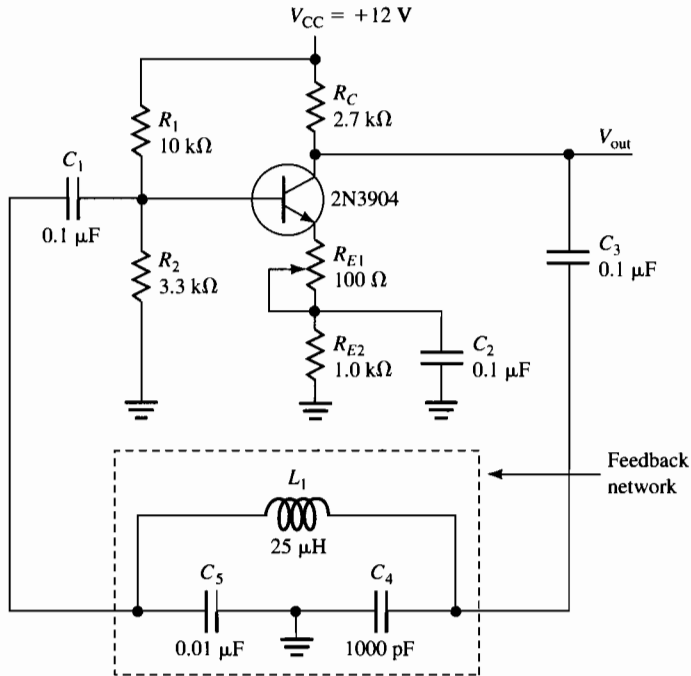

Figure 42–2
4. Remove the generator and add the feedback network for a Colpitts oscillator, as shown in Figure 42–2. Adjust R_{E1} for the best output sine wave. Compute the frequency of the Colpitts oscillator and record the computed frequency in Table 42–4. Then, measure the frequency and the peak-to-peak voltage at the output and record them in Table 42–4.
7. Replace the feedback network with the one shown in Figure 42–3. (L_2 can be wound by wrapping about 40 turns of #22 wire on a pencil.) Adjust R_{E1} for a good sine wave output. This configuration is that of a Hartley oscillator. Compute the frequency of the Hartley oscillator, and record the computed frequency in Table 42–2. Then, measure the frequency and the peak-to-peak voltage at the output and record them in Table 42–5.